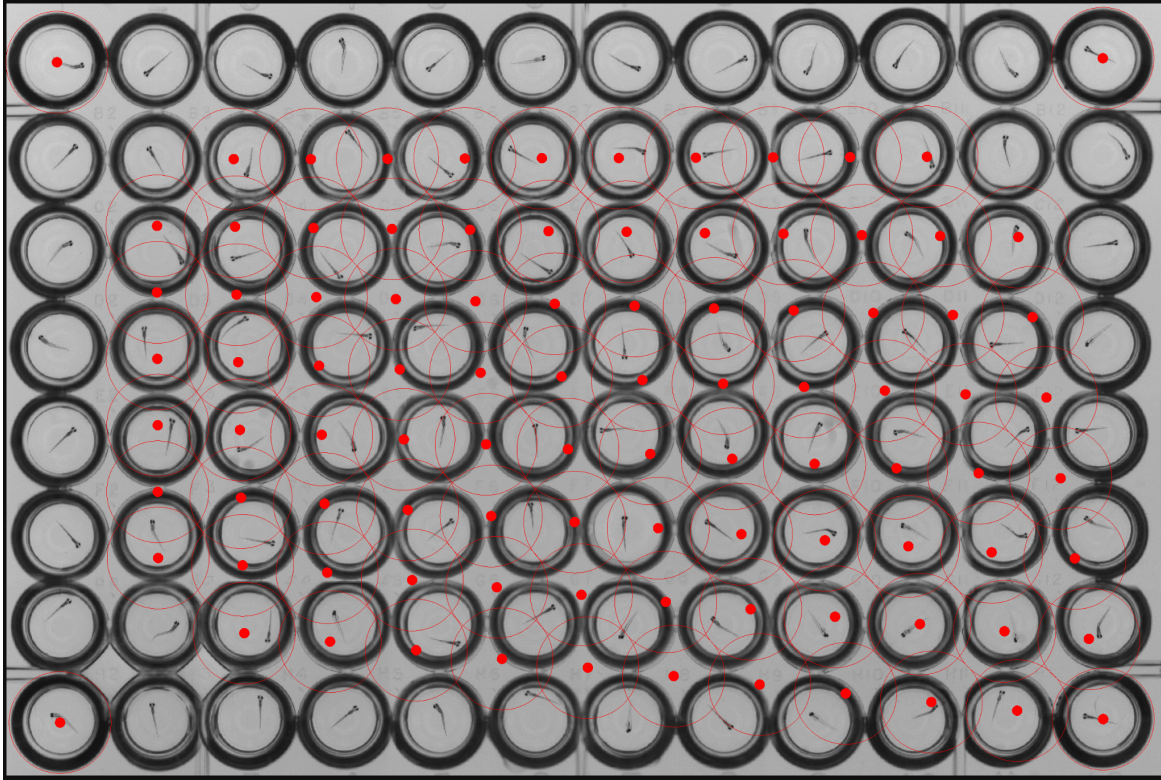

Fig 32: Well Alignment corrected initial guess.
- 5) To correct this initial guess, only the four corners must be repositioned. Double click on the center point of a corner circle and drag the circle over a corner well until it lines up with the outer edge of the well. This is shown in the top left corner of the image below (Fig 32).